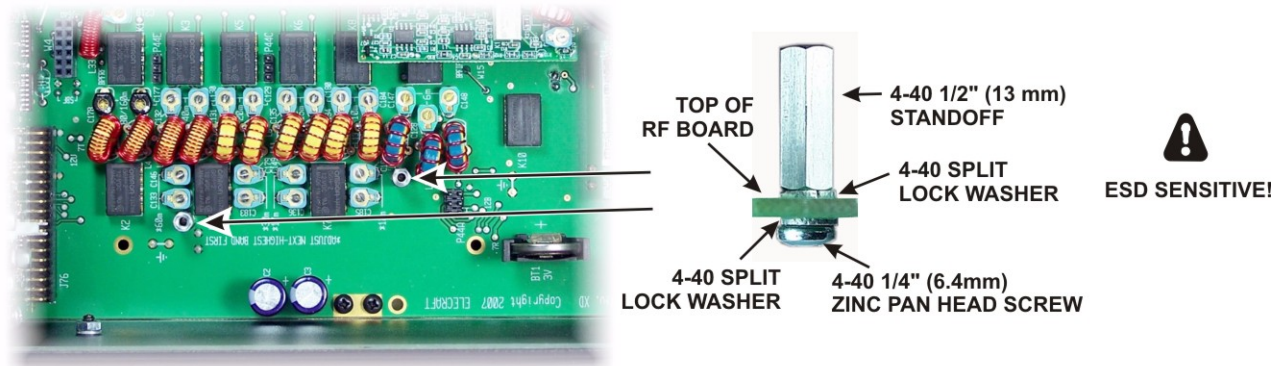

Figure 12. Installing KBFP3A Standoffs.
- ☐ Install two 1/2" (13 mm) standoffs on the RF board as shown Figure 12. Use the hardware exactly as shown. The lock washer between the standoff and the pc board is very important to establish the correct height above the board.